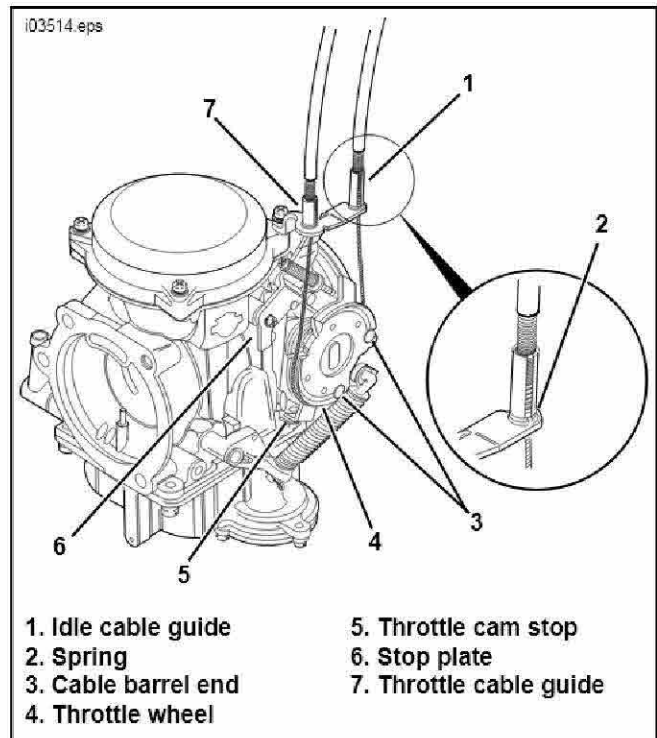

Figure 4. Throttle Cable Assembly (Carbureted Models)
- See Figure 4. Remove cables at carburetor as follows. Using slots, remove cable barrel ends from holes in throttle wheel and release cable housings from cable guides on carburetor cable bracket.
- Refer to Figure 4. Install the carburetor side of the cables as follows. Install the idle cable housing and spring into the longer cable guide on the carburetor cable bracket. Drawing idle cable downward, fit barrel end into hole in throttle wheel (farthest from cam stop). Install the throttle cable housing into the shorter cable guide, inserting barrel end into remaining hole in throttle wheel.